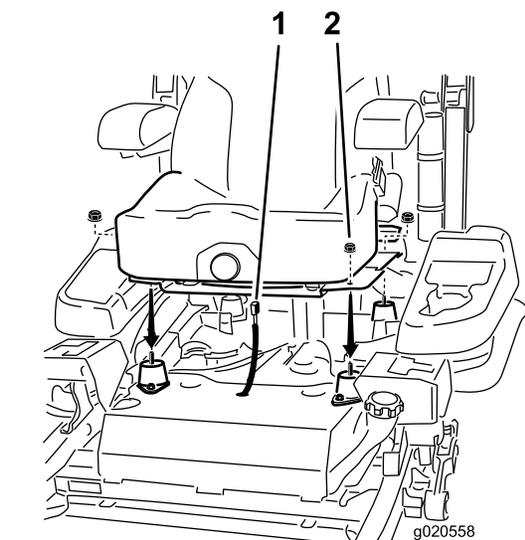

Figure 13
- Plug the harness connector into the seat switch located under the seat towards the front (Figure 13).
10. Install the seat to the machine frame with the previously removed nuts (Figure 13).